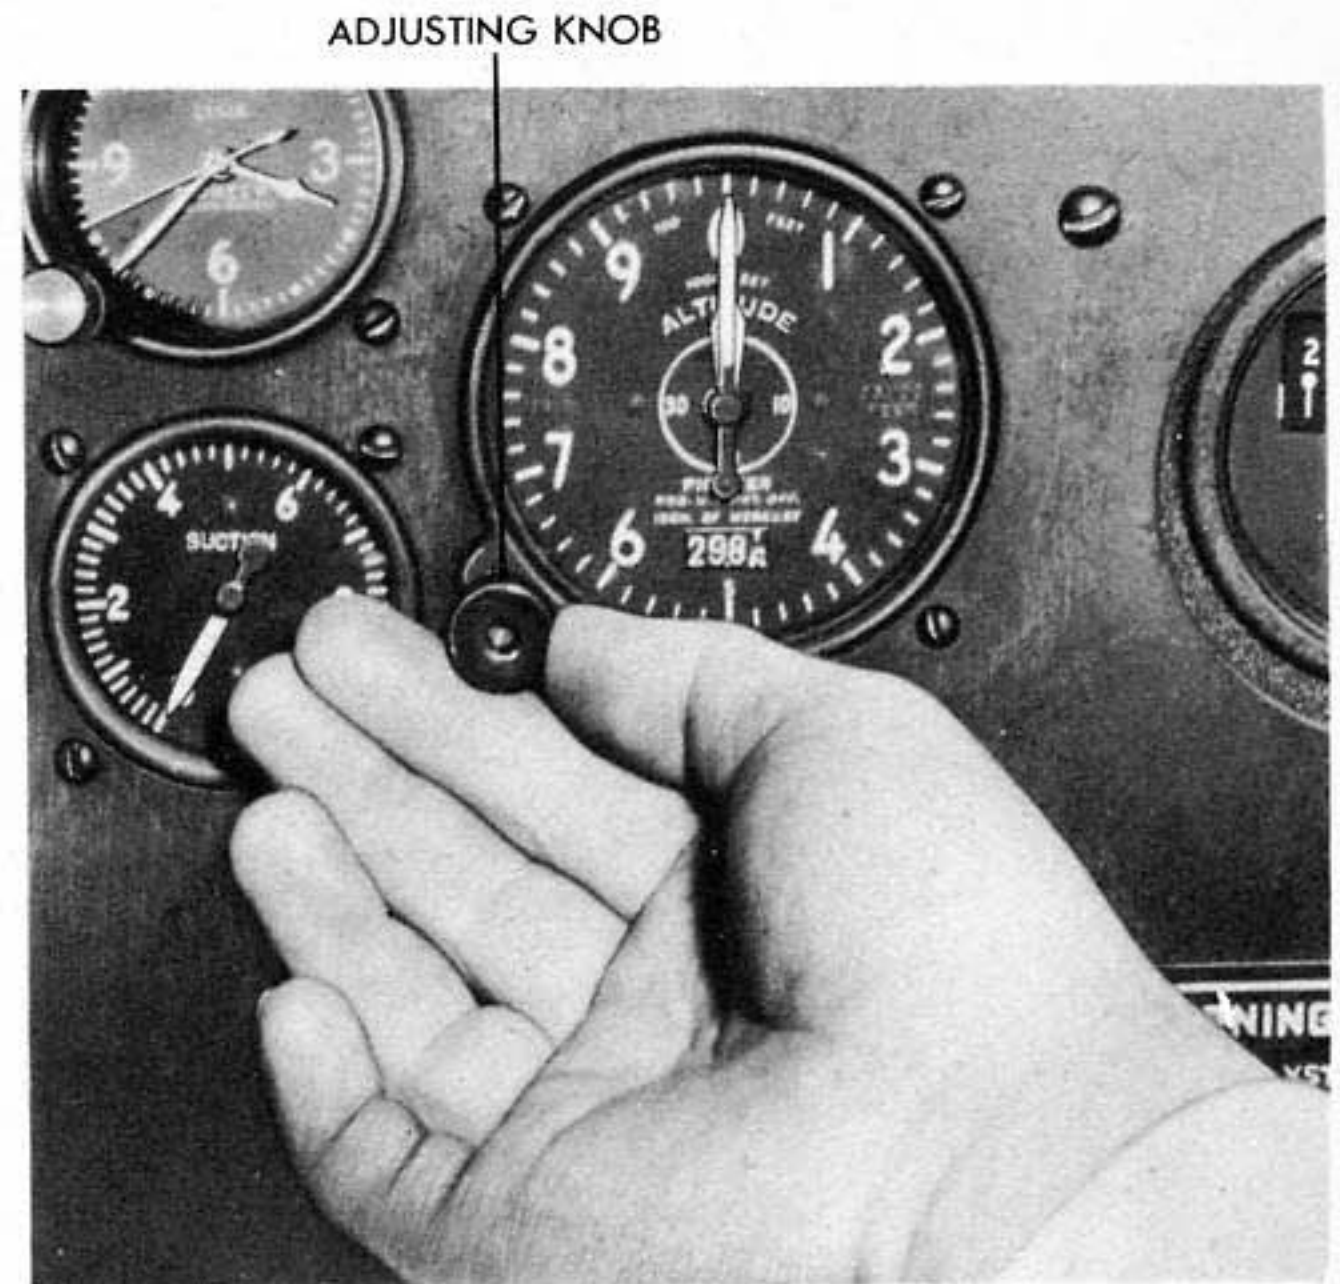

Figure 165 - ADJUSTING ALTIMETER
(1) CHECKING ZERO ADJUSTMENT OF ALTIMETER: (See figure 165.)